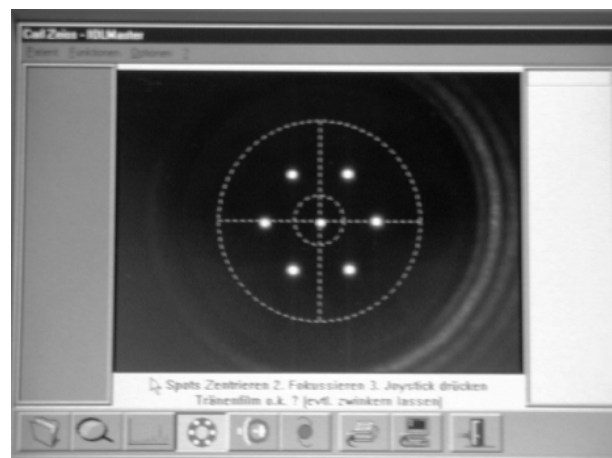

Fig. 34
- Move the aperture assembly in such a way that the keratometer measurement marks are clearly imaged without any reflections, see Fig. 34.